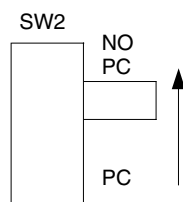

FIG. 13 Switch setting for keyboard use without PC connected
- For keyboard use without a PC, slide the SW2 switch to the "NO PC" position shown in FIG. 13.